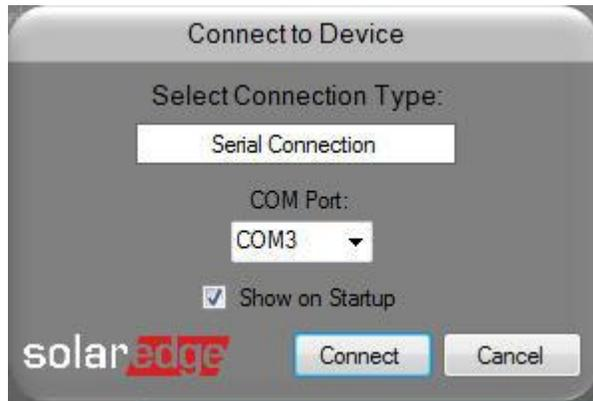

Figure 2: Selecting the COM Port
- On the toolbar, select the Options  button to redisplay the *Connect to Device* window (see Figure 2).